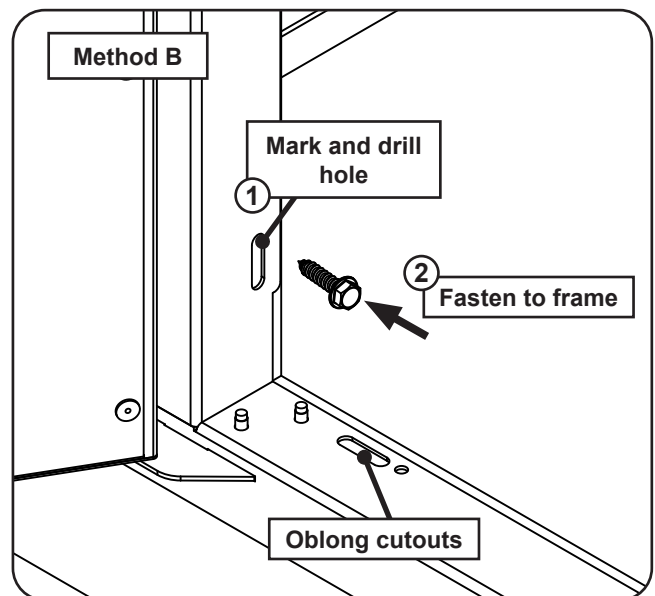

Fig. 3-3 Method B install detail
2. Drill pilot holes for each screw. See Fig. 3-3, step 1. It is recommended to use a #21 drill bit (0.159") to drill pilot holes.
4. Insert a long hex screw and tighten with the power drill and 5/16" hex driver (see Fig. 3-3, step 2). **DO NOT OVERTIGHTEN.**